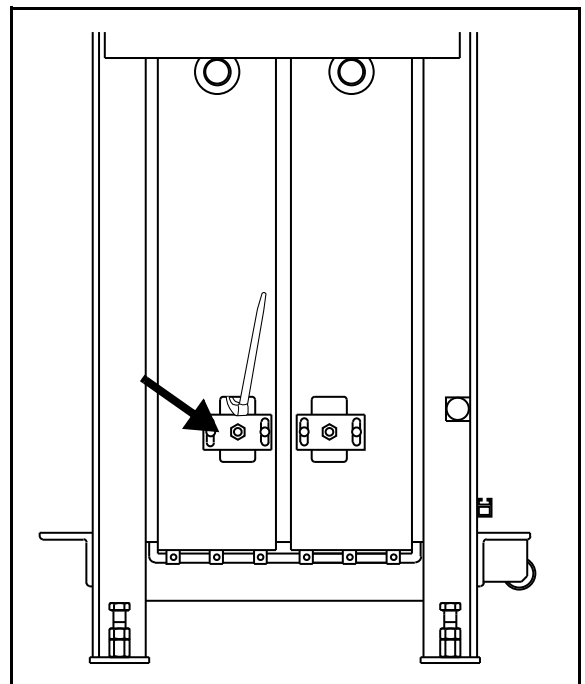

Fig. 6
- Tighten the chain by loosening the screws in the lower bearing housing. Push the bearing housing downwards with a pinch bar, see Fig. 6. Tighten the screws for the bearing housing.